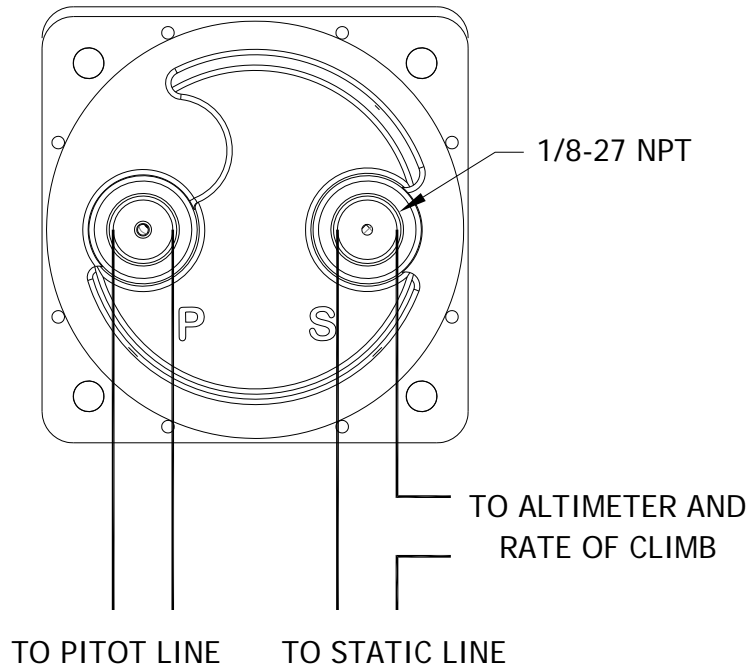

FIGURE 3.3
- D. The remaining port (designated "S") should be connected to the static line vented to atmospheric pressure. See Fig 3.3 for details.